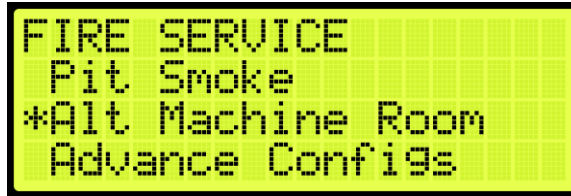

Figure 603: FIRE SERVICE Menu – Alt. Machine Room
2. From the FIRE SERVICE menu, scroll and select Alt. Machine Room (See Figure 603).
1. Navigate to MAIN MENU | SETUP | FIRE (See Figure 603).